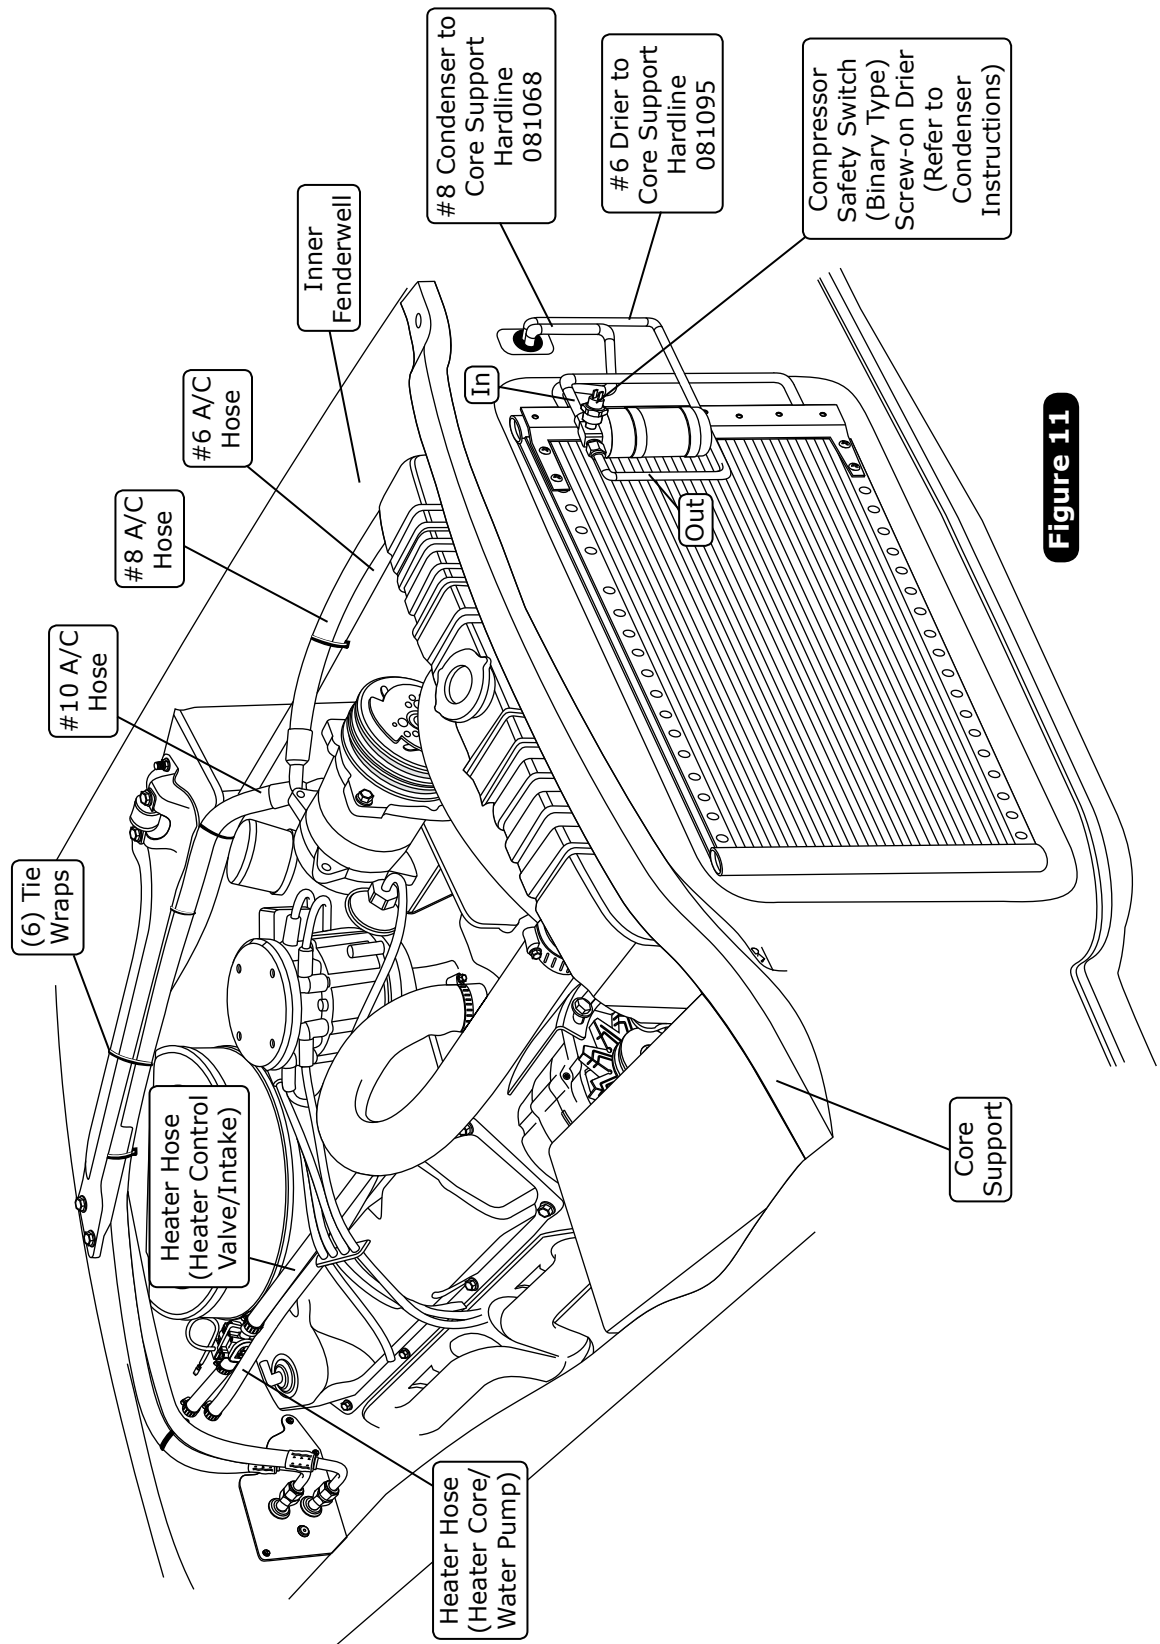

Figure 11
1. Locate the #8 compressor A/C hose. Lubricate (2) #8 O-rings (See Figure 9, above) and connect the 45° fitting to the #8 discharge port on the compressor. Then route the straight female fitting with service port to the #8 condenser hardline coming through the radiator core support (See Figure 11, Page 13). Tighten each fitting connection as shown in Figure 9, above.
2. Locate the #10 compressor A/C hose. Lubricate (2) #10 O-rings (See Figure 9, above) and connect the 90° female fitting with service port to the #10 suction port on the compressor. Then route the 90° female fitting to the #10 evaporator hardline coming through the firewall (See Figure 10, Page 12, & Figure 11, Page 13). Tighten each fitting connection as shown in Figure 9, above. Wrap the #10 fitting connections with press tape (See Figure 10, Page 12).
3. Locate the #6 evaporator/drier hose. Lubricate (2) #6 O-rings (See Figure 9, above) and connect the straight female fitting to the #6 drier hardline coming through the radiator core support. Then route the 90° female fitting to the #6 evaporator hardline coming through the firewall (See Figure 10, Page 12 and Figure 11, Page 13). Tighten each fitting connection as shown in Figure 9, above.
4. Use (6) tie wraps to secure the #6 A/C hose to the brace as shown in Figure 11, Page 13.